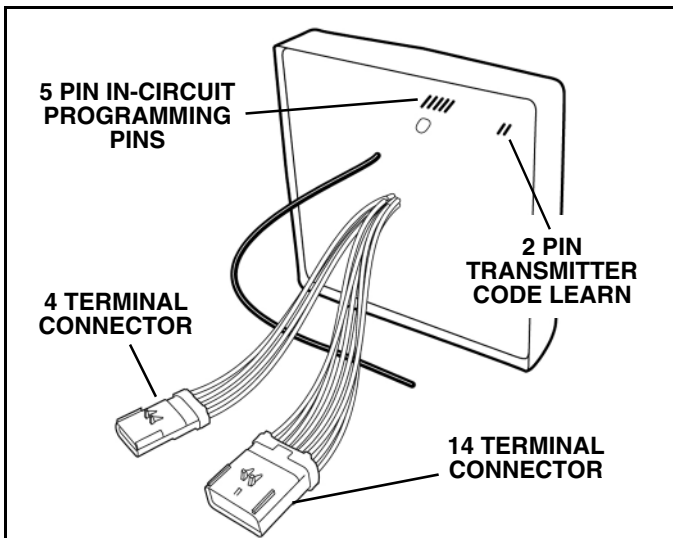
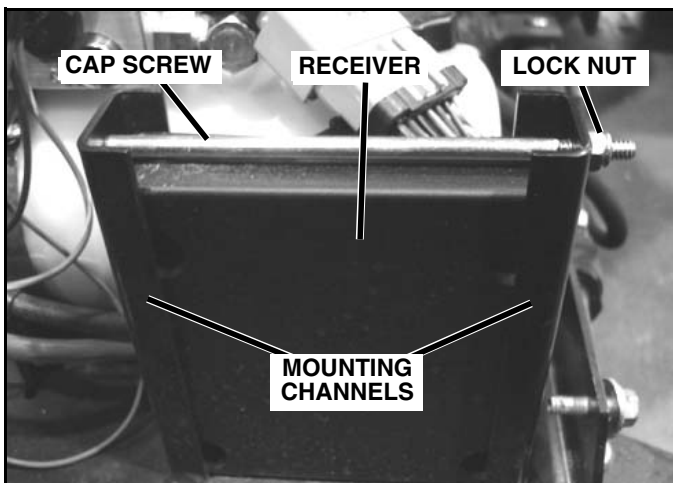
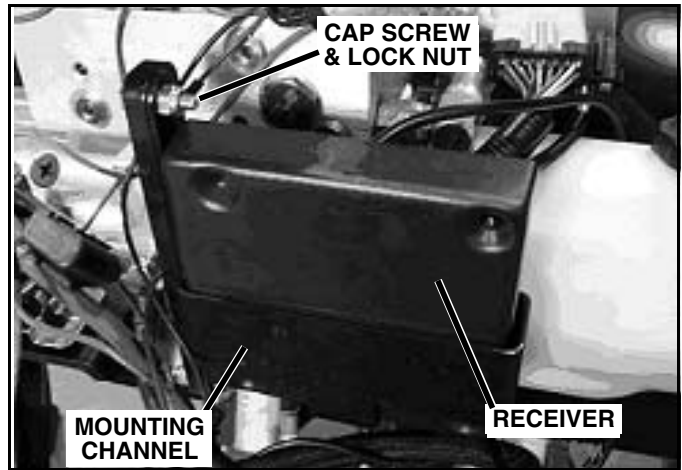

Figure 1-1
Figure 1-2a
Figure 1-2b
3. With the 5-pin in-circuit programming pins positioned on the top of the unit (See Figure 1-1), slide the receiver module into the receiver mounting channel with the exposed wires of the receiver box positioned toward the hydraulic reservoir. (See Figure 1-2a for 22, 26, 29/32 Series.) (See Figure 1-2b for MegaBlade Series.)
3. Place metal object across the 2 pin Transmitter Code Learn contacts on the receiver module. (See Figure 1-1).